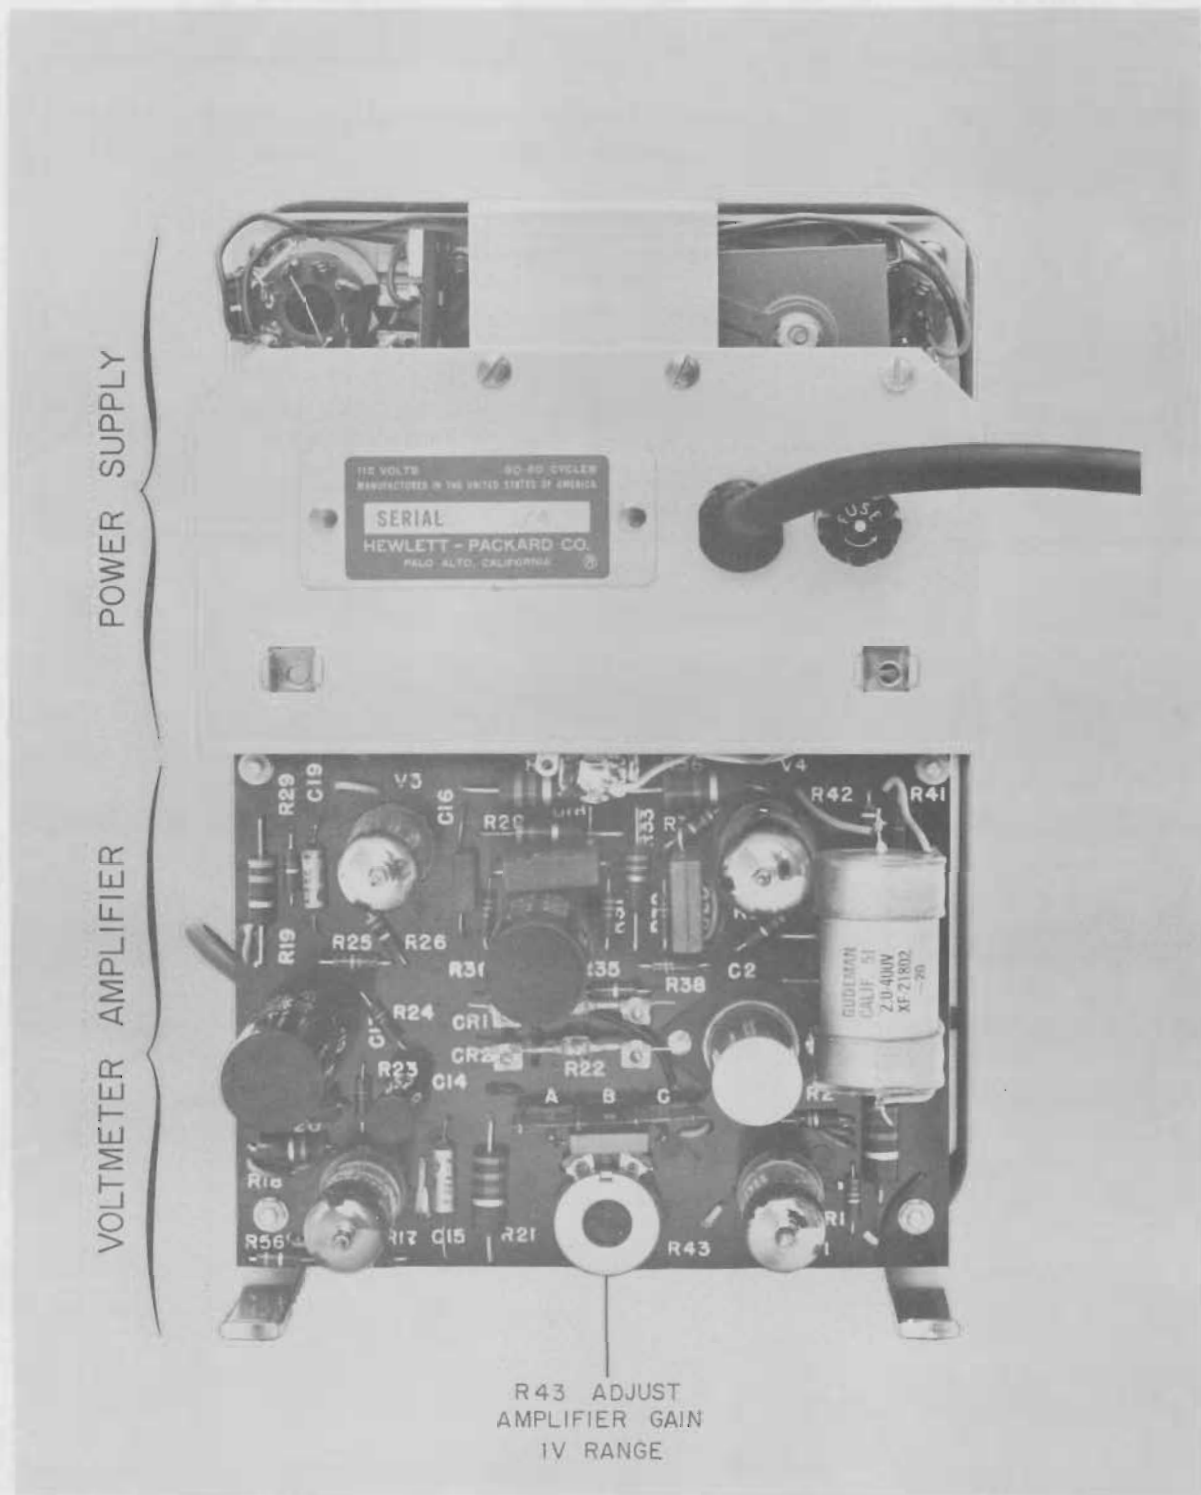
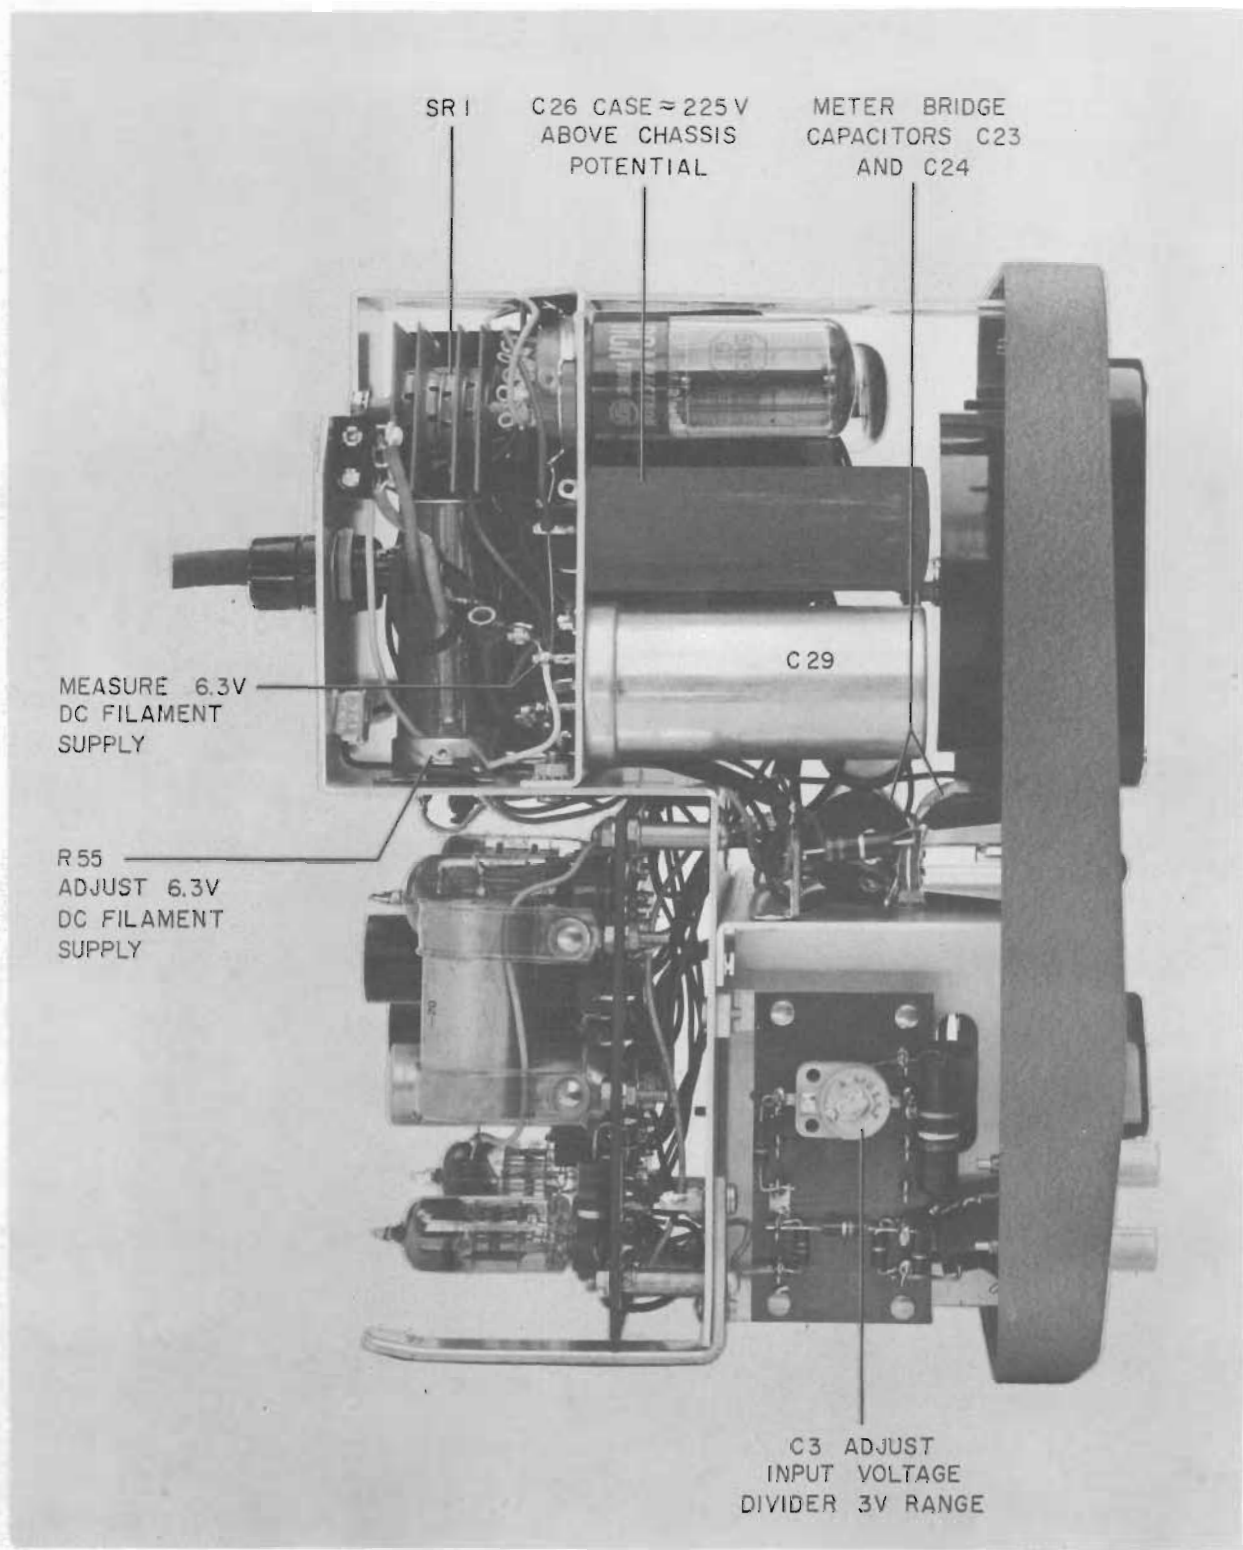

Fig. 5. Rear View Cover Removed
Fig. 6. Left Side View Cover Removed
- a. Measure the dc voltage across C29 and ground, as shown in Figure 6.
- b. Adjust R55, shown in Figure 6, as necessary to bring this voltage to 6.3v dc, with a line voltage of 115v.
The first step in calibration adjustment consists of adjusting the amplifier gain on the 1 volt range with R43 shown in Figure 5. The second step adjusts the input voltage divider on the 3 volt range with C3 shown in Figure 6.
- c. Adjust R43 (Fig. 5) so that the 400AB indication agrees with that of the external ac meter (1 volt full scale.)
- e. Adjust C3 (Fig. 6) so that the 400AB indication agrees with that of the external ac voltmeter (3 volt full scale).
Excessive residual meter displacement can be caused by noise or hum in the voltmeter amplifier or by ripple in the power supply. When the effect is present, short circuit the INPUT terminals and change V1 and/or V2. Check the dc filament voltage. (6.3 vdc across point shown in Figure 6 and chassis). The 120 cycle ripple on the dc filaments should be less than .05 v rms.